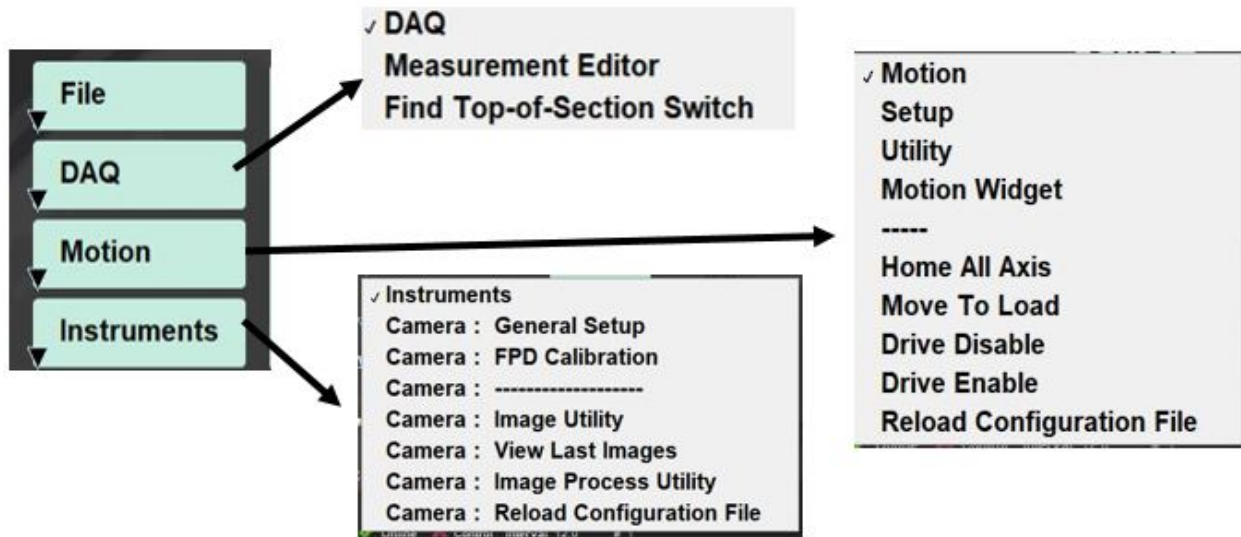
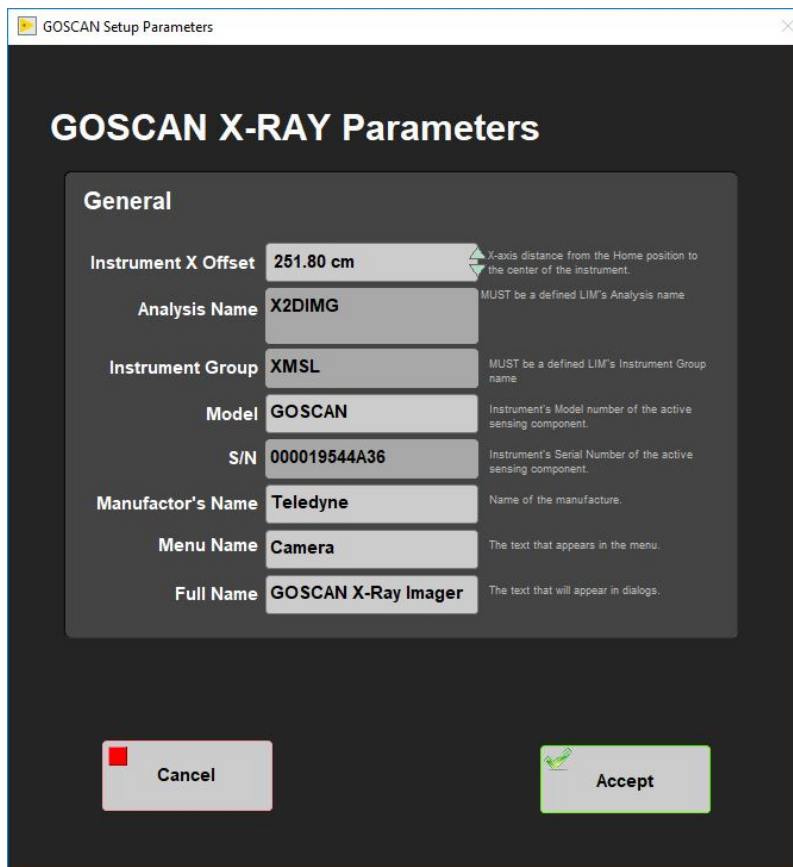
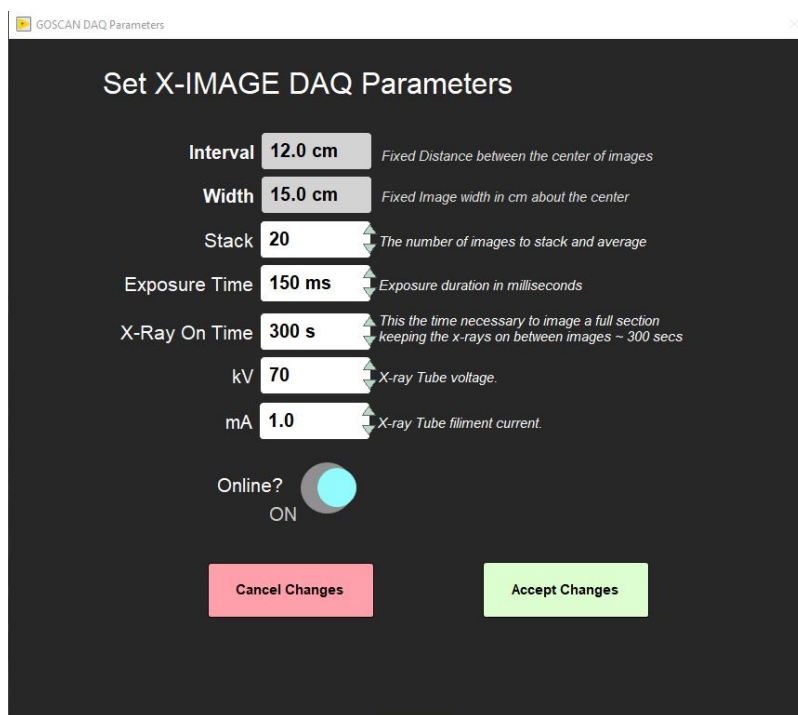

Figure 11- IMS Control Panel Drop down Menus
Figure 12- XMSL Parameters Window
Figure 14- XMSL Measurement Editor Window
The four buttons on the IMS-UI window provide access to utilities/editors via dropdown menus as shown in **Figure 11**.
To open the XMSL instrument setup window (Figure 12), select **Instruments > Camera: General Setup** from the IMS panel menu (Figure 11). These settings are related to the detector only.
1. Ensure the values in the window are set as shown in Figure 12.
To open the Measurement Editor (**Figure 14**), select **DAQ > Measurement Editor** from the IMS panel menu (**Figure 11**). This window allows the user to view and adjust the XMSL DAQ parameters.